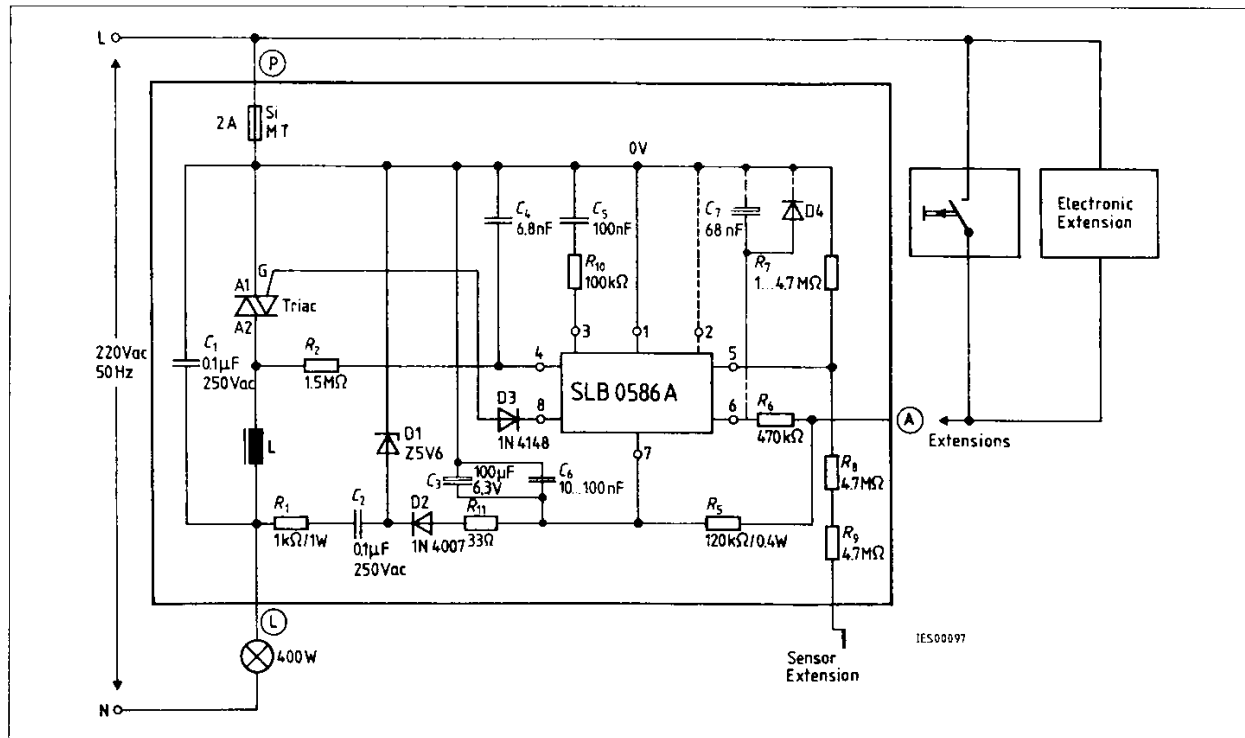

Figure 3
- Filtered signal for synchronization of the internal time base (PLL circuit) with line frequency (R_2 , C_4). For specific applications C_4 can be increased up to 33 nF, so that the lamp gets darker (**refer to figure 3**).